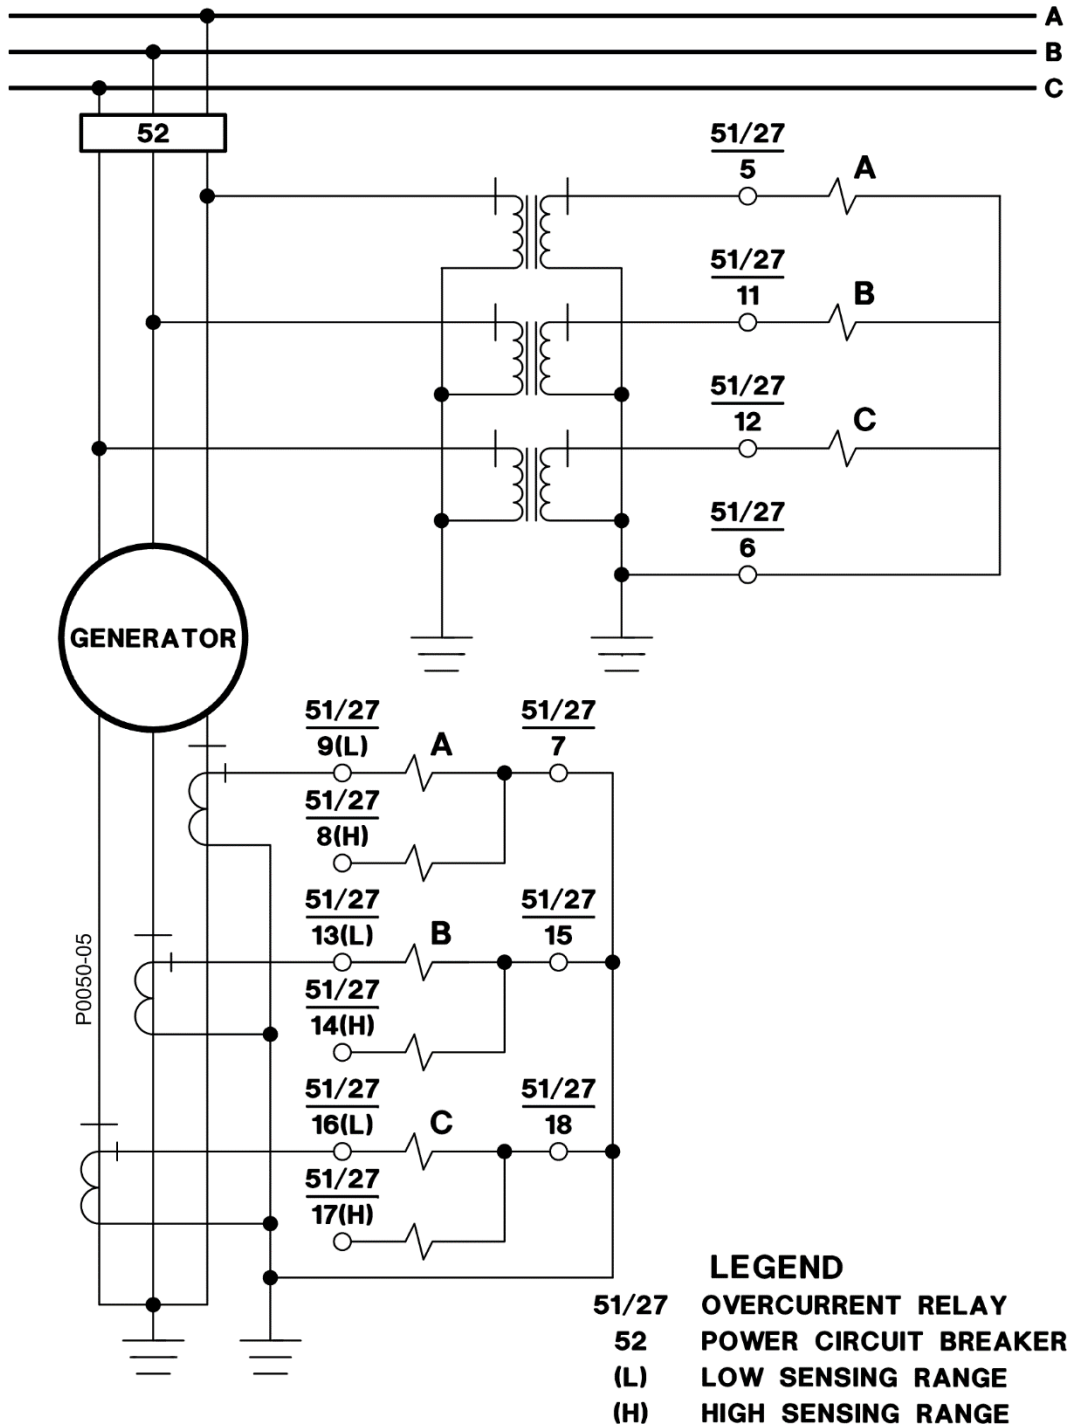

Figure 4-15. Typical Sensing External Connections, Sensing Input Type P
- Figure 4-15: Typical Sensing External Connections, Sensing Input Type P